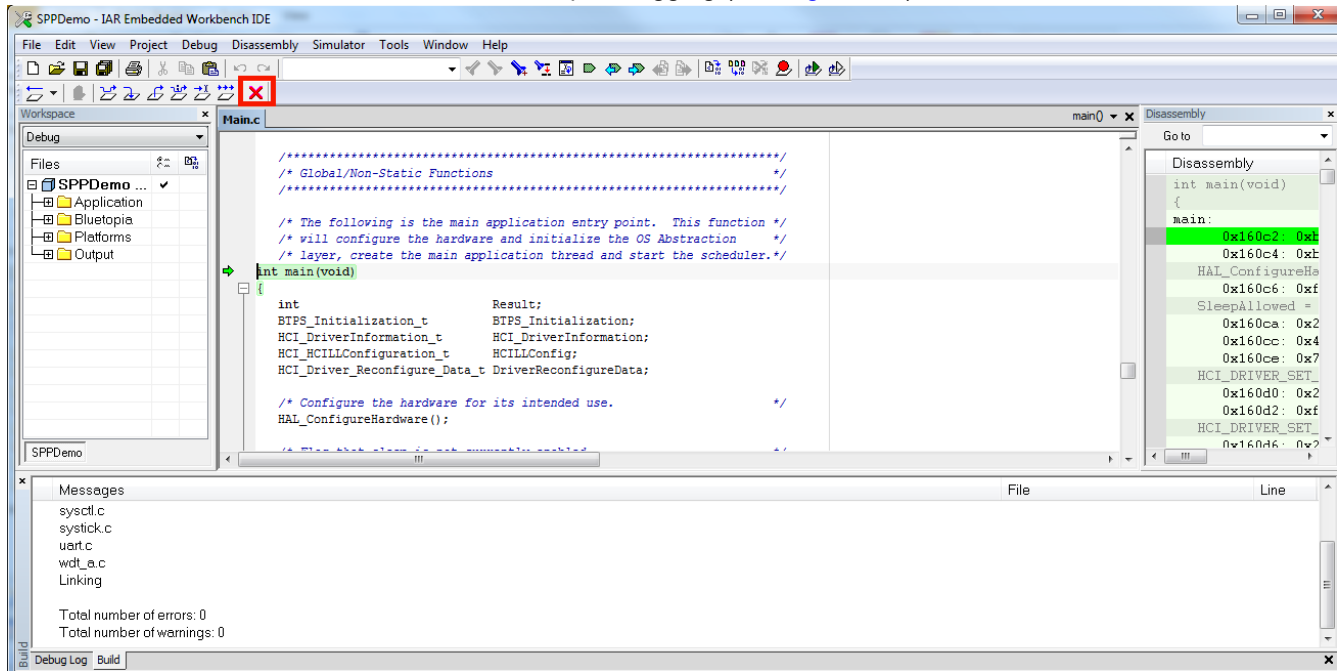

Figure 6-7. Red X
8. Click the red X icon in the IAR toolbar to stop debugging (see Figure 6-7).